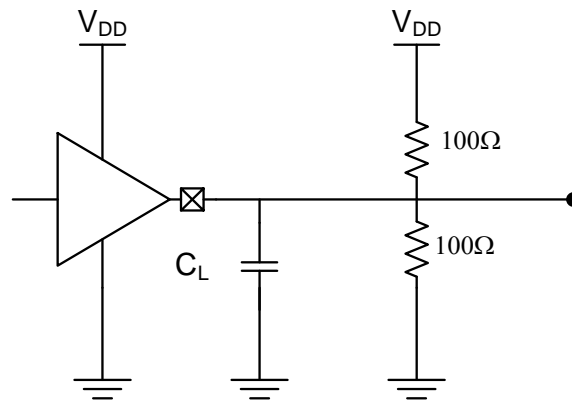

Figure 14. Equivalent Load Circuit for Timing Characteristics Tests
1. All outputs are measured using the load conditions shown in Figure 14.
2. All outputs are measured using the load conditions shown in Figure 14.
4. A unit interval (UI) is defined as the nominal, or ideal, bit width.